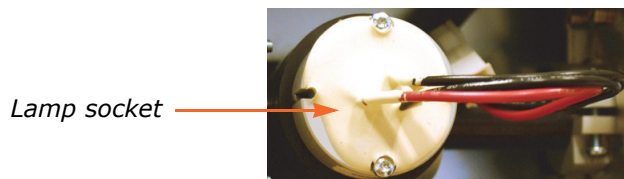

Figure 5-14. Turn the UV Lamp and Remove
5. Turn the UV lamp into a horizontal position with the lamp socket facing you; see Figure 5-14.
6. Remove the two screws on the lamp socket (see Figure 5-14) using a Torx 10 screwdriver.